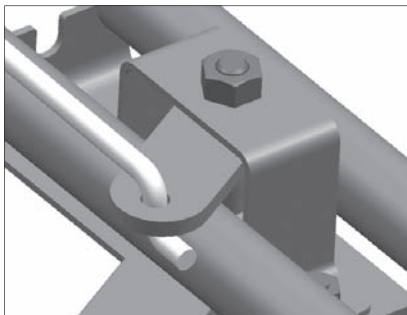

Figure 2
3. Insert rod into upper control handle as shown in Figure 2.
4. Insert rod end into gate linkage and lock in place with hairpin clip as shown in Figure 2.